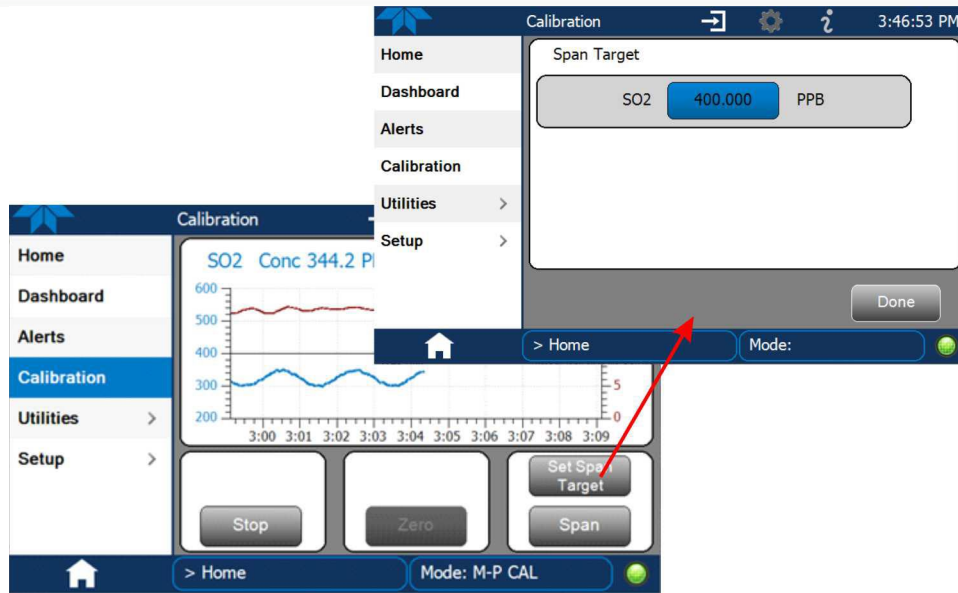

Figure 4-3. Span Calibration Set Target
- a. Press the Set Span Target button and enter the gas concentration (Figure 4-3).